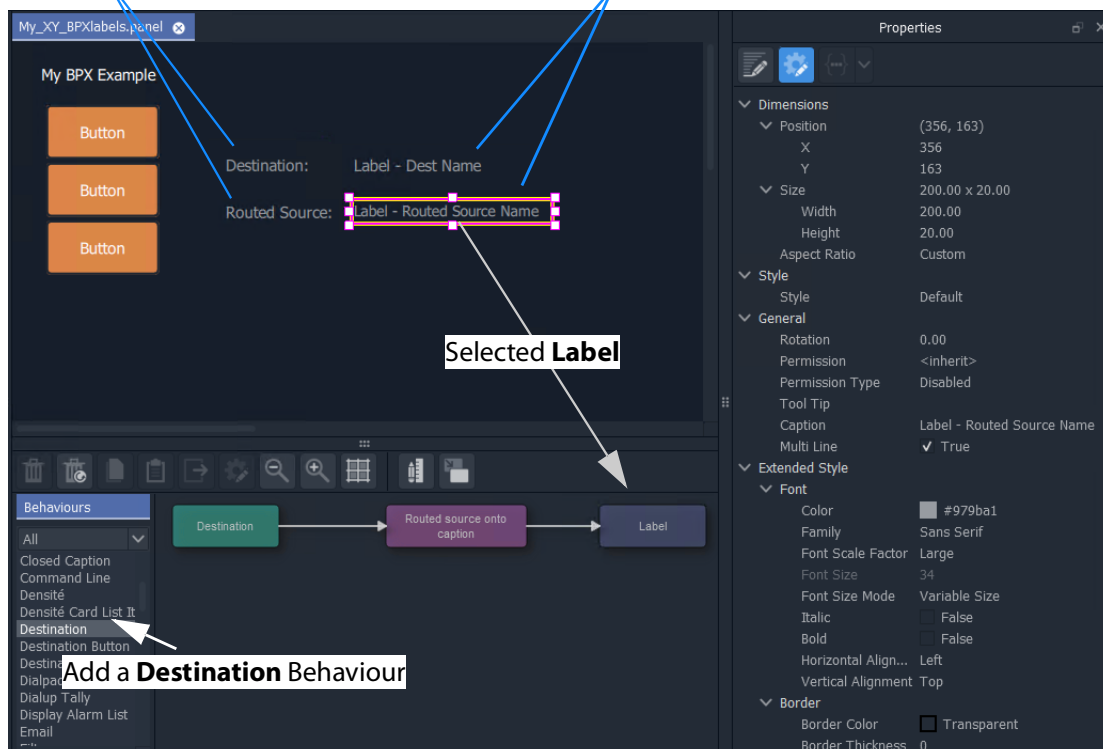

Fig. 12-55: Adding Labels
- 1 Add four **Label** widgets to the BPX panel. See Figure 12-55.
- 2 Set two labels to have fixed 'Caption' properties. See Figure 12-55.
- 4 Select one of the **Labels**. See Figure 12-55.
- 5 Add a **Destination** Behaviour. See Figure 12-55.